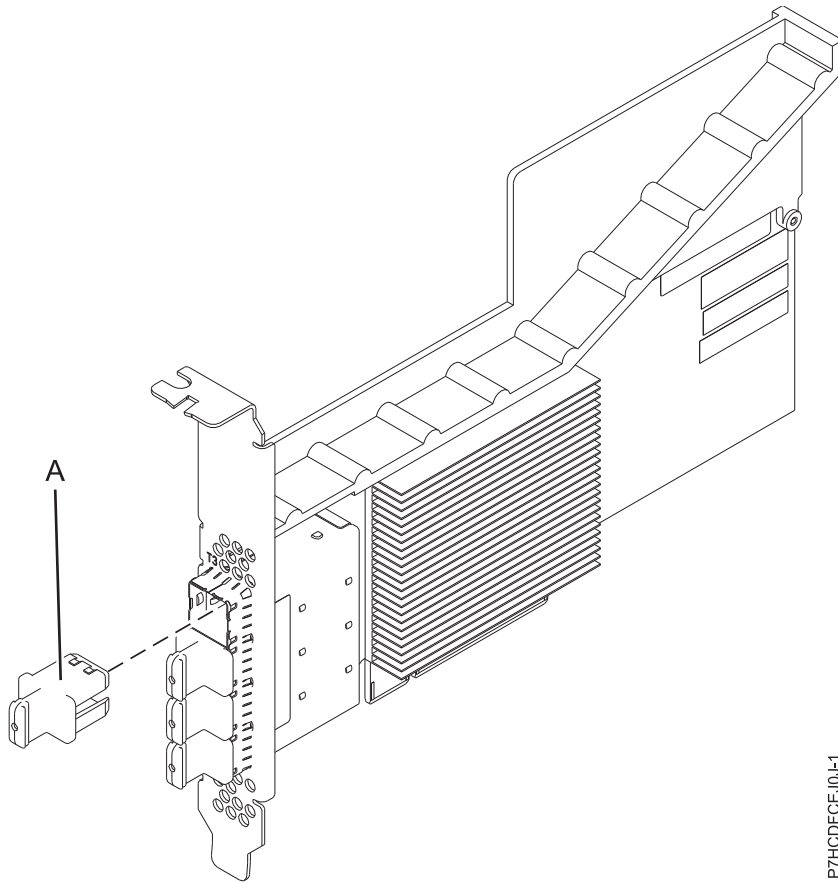

Figure 26. PCIe3 4 x8 SAS Port Adapter
The PCIe3 4 x8 SAS Port Adapter is a PCI Express (PCIe), generation 3, RAID SAS adapter that has a low-profile, short-form factor, but packaged for full height installation. The adapter is used in high-performance and high-density, serial attached SCSI (SAS) applications. It supports the attachment of SAS DVD or SAS tape by using four mini SAS high-density (HD) x4 connectors that allow the physical links to be used in various narrow and wide-port configurations. SAS tape attachment is only supported in a single adapter configuration and cannot be mixed with SAS disk on the same adapter. The adapter does not have write cache. Figure 26 on page 73 shows the PCIe3 4 x8 SAS Port Adapter.
Figure 26 on page 73 shows the adapter. The connector plug (A) is installed in an empty port and prevents damage to that port whenever a cable for the adjacent port connectors is plugged-in or removed.